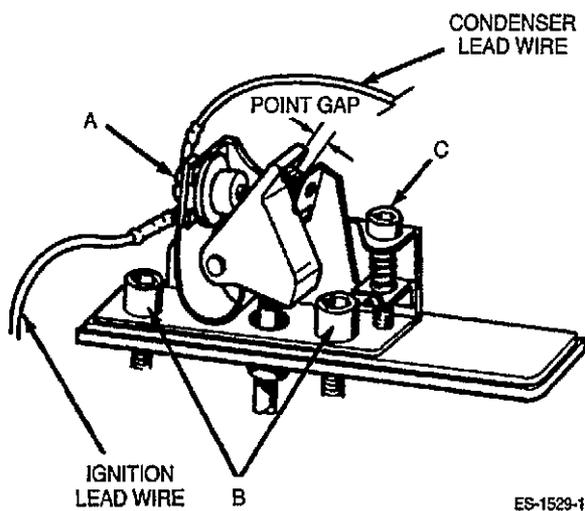

FIGURE 6-10. BREAKER POINTS
4. Disconnect the condenser and ignition lead wires at screw A (Figure 6-10).
6. Remove the breaker points mounting screws (B) and lift out the point assembly.
8. Use an allen head wrench to adjust set screw C to obtain the gap setting specified in the *Specifications* section. Measure the point gap with a flat thickness gauge (see Figure 6-10).